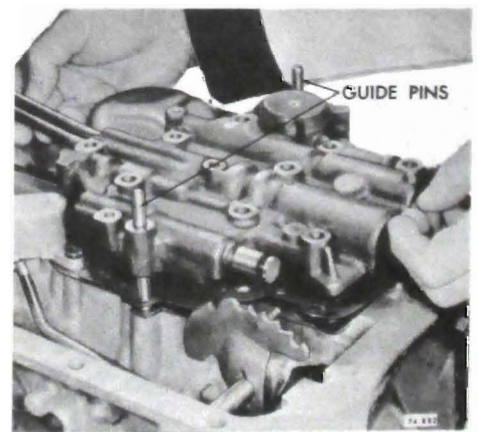

Figure 76-783
3. Install two guide pins (control valve assembly attaching bolts with heads removed). See Figure 76-783.
4. Install control valve assembly and governor pipes. See Figure 76-783.